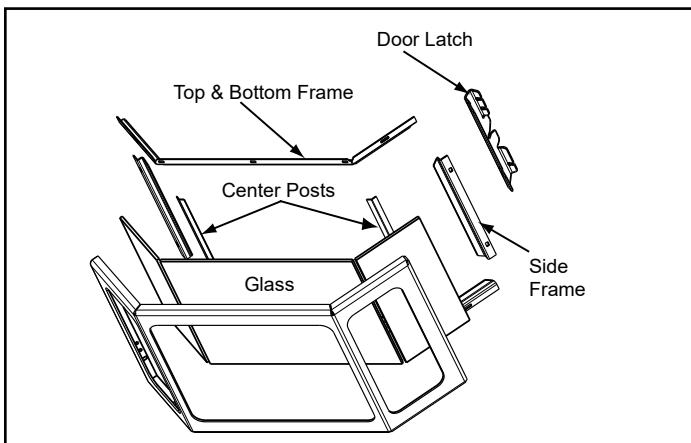

Figure 28.1
- Using a nut driver remove the (5) bottom nuts and remove the bottom glass frame (**Figure 28.1**).